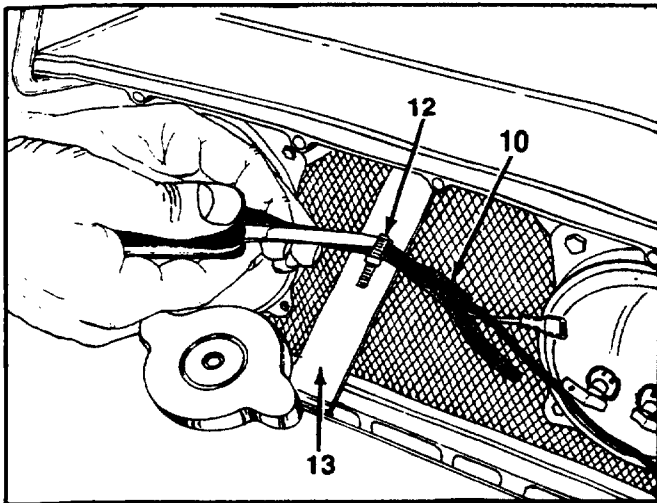

FIGURE 7.
8. Cut the cable tie holding the headlight wire harness at grille support strap. See figure 7.
9. Remove the grille support strap at radiator. See figure 7.